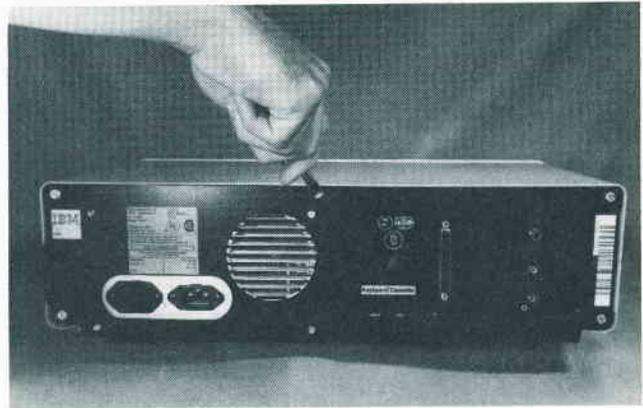

Fig. A-2. Remove these screws to disassemble the IBM PC.
4. Using a flat-head screwdriver, remove the five screws from the rear plate. (Refer to Fig. A-2.)